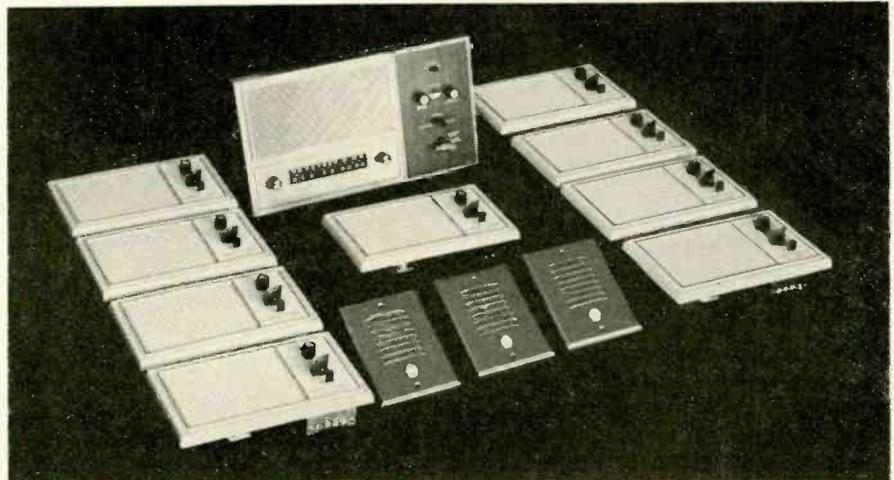

Fig. 2—Combination intercom and AM/FM radio system is easy to install. Two remotes were made portable to expand system to 16 positions without overloading.
3. The third method is the opposite of the second. The scope is connected to the output of the last stage as in Fig. 2-a. Now the signal is applied to the input of this stage and, if an output signal is obtained, the generator is moved to the input of the second stage to see if the signal gets through this circuit also. Again, only one instrument lead needs to be shifted.
4. The fourth method is to take advantage of the broadcast signal and thus dispense with the signal generator. The scope is moved from stage to stage until no signal output is observed. This is shown in Fig. 2-b.
Fig. 2—Two more signal-tracing methods. In a, oscilloscope is across the output of the circuit while the signal generator is moved from stage to stage until the signal disappears to pinpoint the defective stage. In b, the scope follows the signal from the input through successive stages until the signal is lost.
remote units without overloading, and a built-in AM and FM radio. (The master and remote units are shown in Fig. 2.) Other features satisfied all requirements except the total number of stations needed . . . the three additional stations could have been added, but another exciting idea popped up which was instantly incorporated into the overall plan.